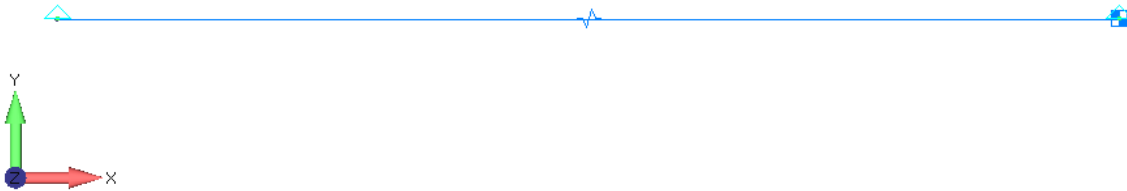

Figure 4-1. Single DOF spring-mass model.
The single DOF spring-mass model (Figure 4-1) consists of a spring grounded at one end with a lumped mass attached to the other. SPCs allow the mass to move only in X-direction translation.
1. Import the 1DOF model “1dof_modes_base.dat” (Figure 4-1). Save the file as “1dof.modfem.”